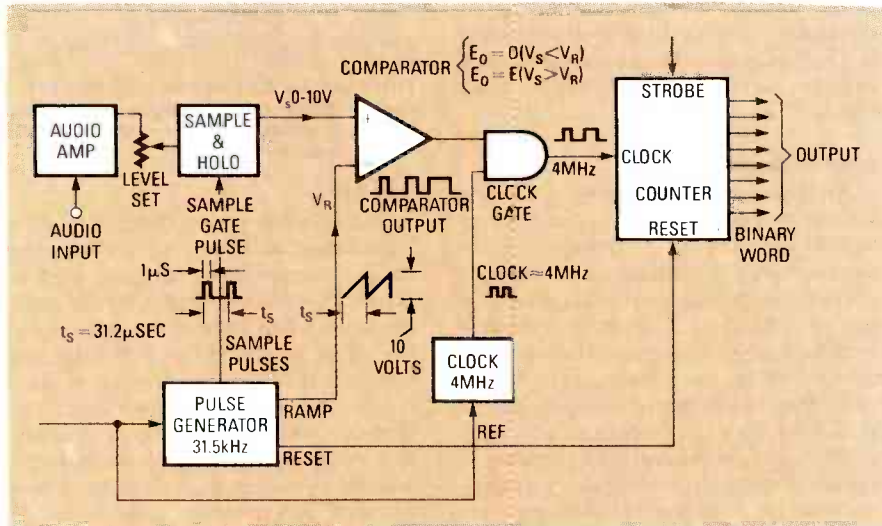

FIG. 3—A COMPARATOR can be used to digitize an analog signal at TTL levels.
Figure 3 shows how an audio signal can be digitized. The output from the audio amplifier is level-set for proper dynamic range, and then sampled every 31.2 microseconds (31.5 kHz rate). The analog value is stored in a sample-and-hold circuit until the next sample is taken; let us assume it may be any value between zero and ten volts. That analog level is then fed to one input of a comparator. The other comparator input is fed with a linear ramp (sawtooth) whose amplitude rises from 0 to 10 volts. (The ramp starts slightly after the sampling interval and ends just before the next audio sample is taken, because some time must be reserved for sampling and resetting the ramp to zero.) If the audio sample is relatively large (say 7 to 10 volts) in amplitude, the ramp will have to rise to that value before the comparator's output voltage will drop to zero. If the analog sample is small (say 1 volt), the comparator will drop to zero when the ramp exceeds one volt. (The comparator's output is a logic high (1) when  $V_S > V_R$ ; it is a logic low (0) when  $V_S < V_R$ . Therefore, the comparator output is a train of pulses having a frequency of 31.5 kHz and a pulse width ranging from nearly zero to 30 microseconds (depending on the sample amplitude.)